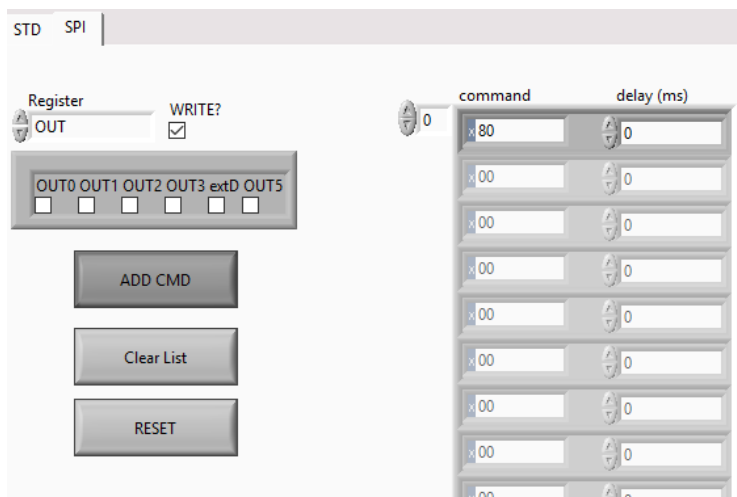

Figure 22 - Add command to command list
- Click ADD CMD and your command is added to the command list (See Figure 22)